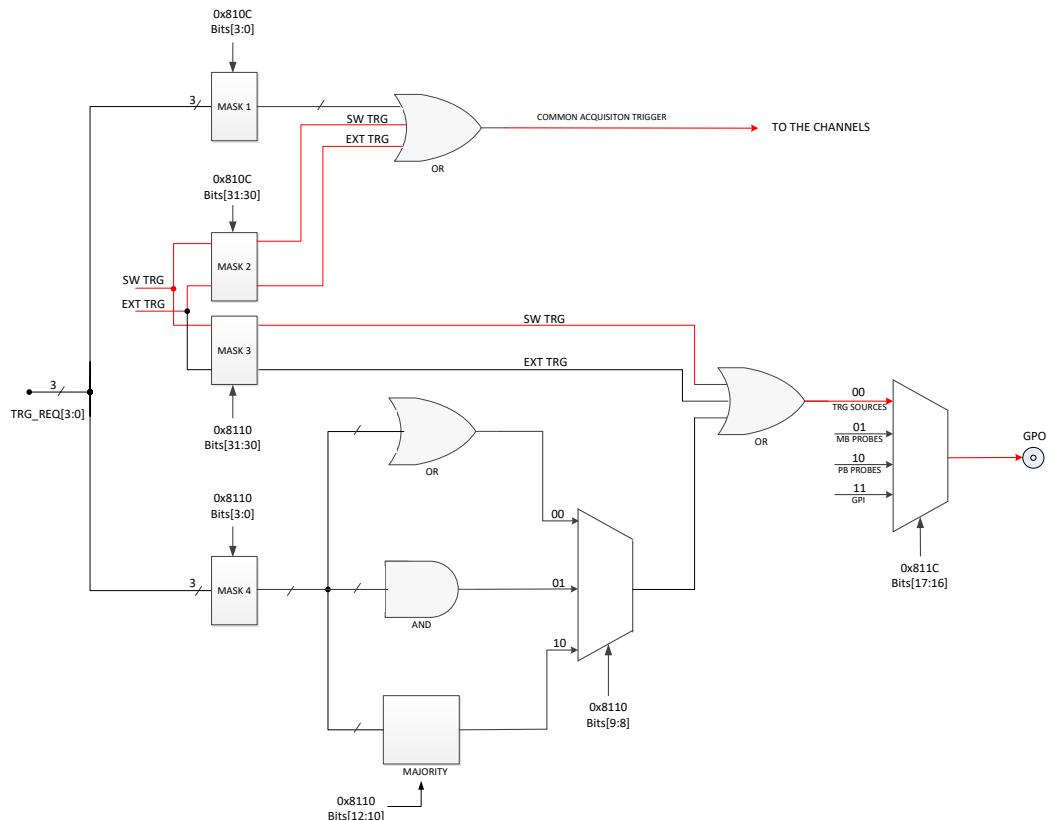

Fig. 10.19: Trigger configuration on GPO front panel output connector
As described in Sec. Trigger Management, the OR of all the enabled trigger sources, synchronized with the internal clock, becomes the common trigger of the board that is fed in parallel to all channels, consequently provoking the capture of an event. By default, only the Software Trigger and the External Trigger participate in the common acquisition trigger (refer to the red path on top of Fig. 10.19).
Thanks to its configurability (see Fig. 10.19), GPO can propagate:
- the OR of all the enabled trigger sources (only the Software Trigger is provided by default, as in the red path of Fig. 10.19);